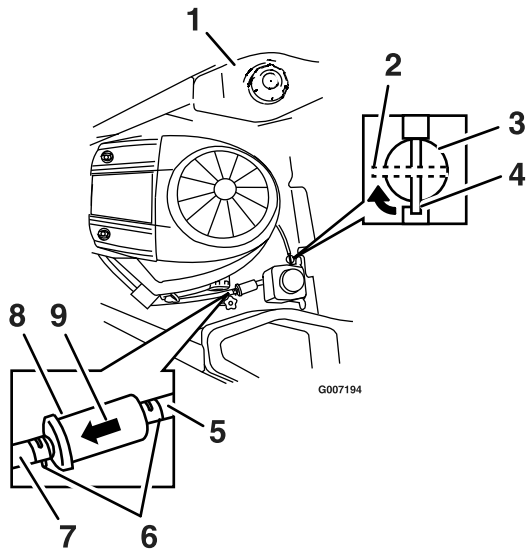

Figure 26
- Squeeze the ends of the hose clamps together and slide them away from the filter (Figure 26).
- Install a new filter with the flow direction arrow coming from the fuel tank and pointing to the engine. Move the hose clamps close to the filter (Figure 26) to secure it in place.